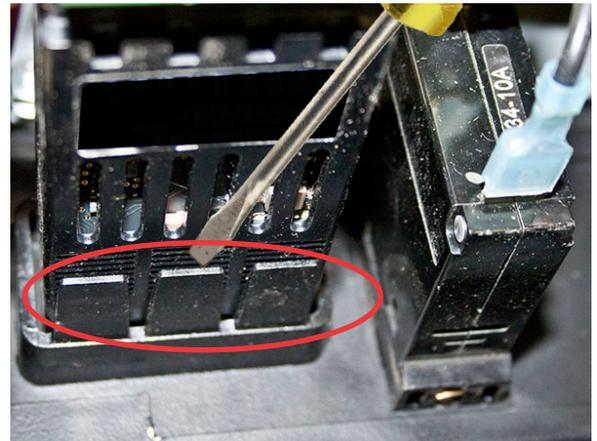

Fig. 6: Pry clip on controller to remove
7. The controller is held to the face plate on the cabinet header by a plastic snap-on clip. To remove the controller, insert a flat-head screwdriver or small knife blade between the clip's "teeth" (3 teeth to both sides) to disengage the clip from the controller clip grooves (Fig. 6).